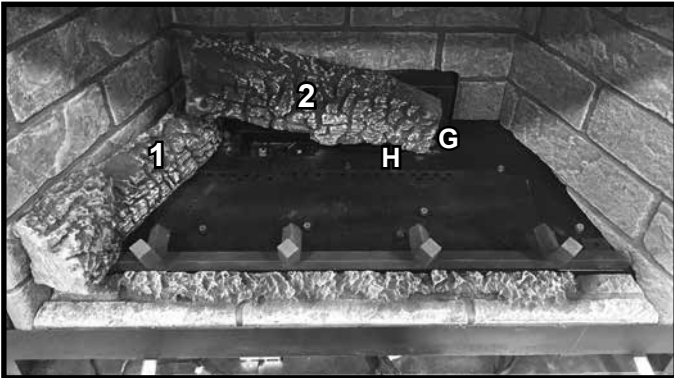

Figure 5. Log #2 Installed
**LOG #2:** Place the bottom right end of log #2 against pins G & H and the left end of the log on the flat spot of log #1. Back side of log will be pushed up against the air scoop. See Figure 5.